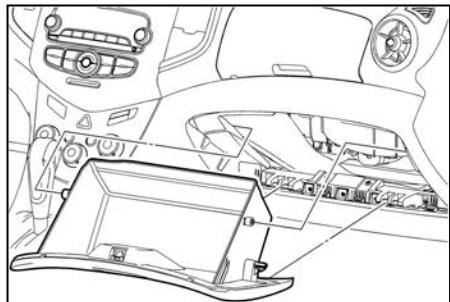

Fig. 24
2. Disengage compartment lid stops and remove glove compartment (see *Fig. 24*).